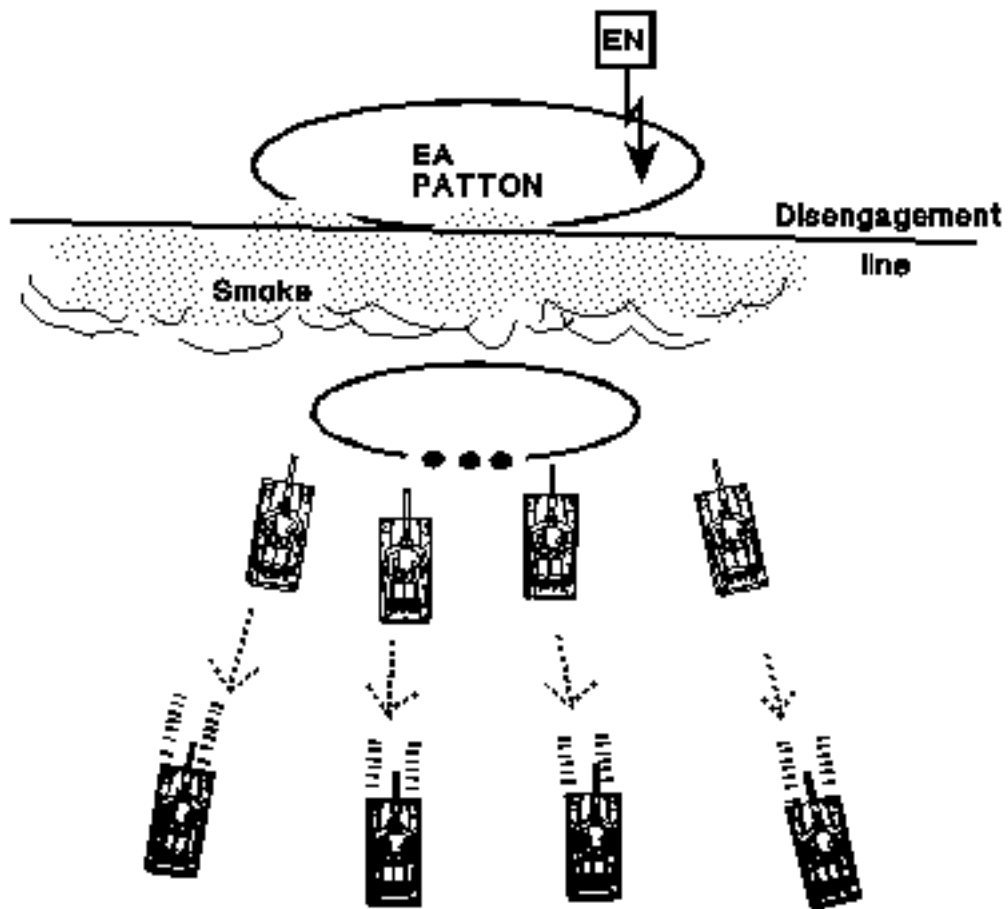

Figure D-6. Using screening smoke to conceal displacement.
- **conducts a bypass, breach, or assault mission.** Figures D-6 through D-8, pages D-26 and D-27, illustrate uses of screening smoke.